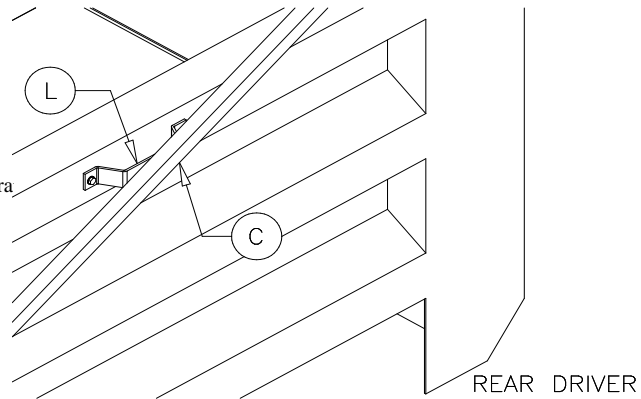

Figure 22
**Procedure:** Close the tarp. Place a pivot arm guide (L) along one of the ribs in the box wall (see Figure 22). Make sure the guide is aligned with the pivot arm (C) (see Figure 22). Mark the position of the pivot arm guide. Using a 11/32" drill bit, drill two holes into the box wall. Secure the pivot arm guide to the box wall with the 3/8"x1-1/4" self threading bolts provided.